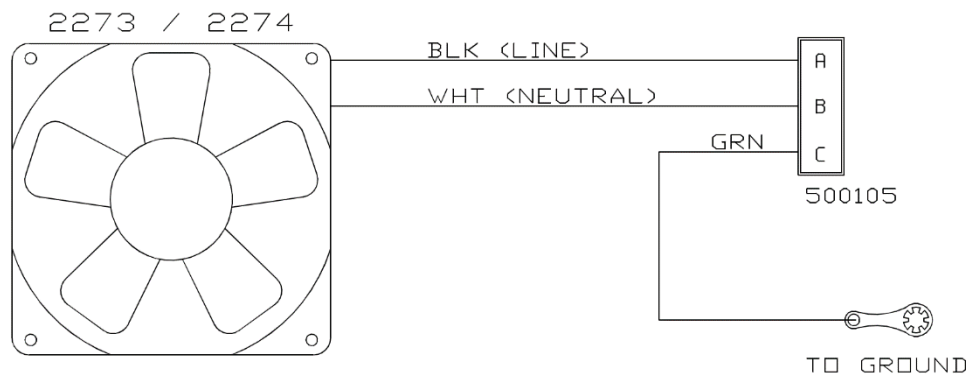

Figure 4-1 Internal Fan Wiring Diagram
- 2.5 Connect AC and sensor cables and route to AC power source and translator or data logger respectively. Refer to figure 4.1 and Appendix A for power wiring connections.